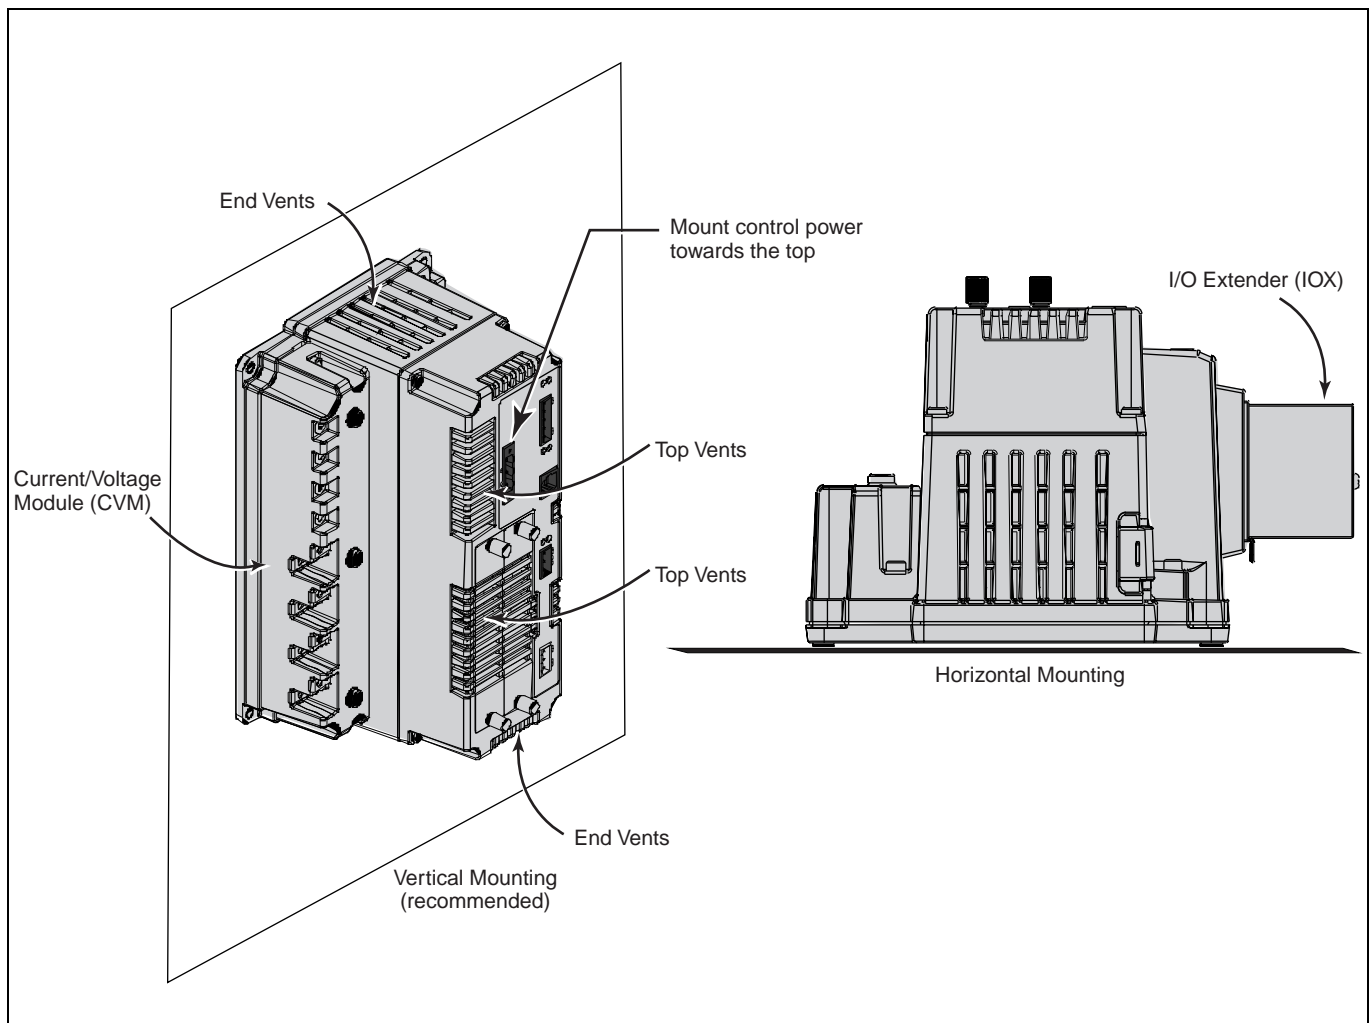

Figure 4-3 Possible ways to orient the circuit monitor
- The circuit monitor can be mounted horizontally or vertically to any side of an equipment enclosure or wall. The recommended orientation is to mount it vertically, making sure the control power connector is towards the top (see Figure 4-3).